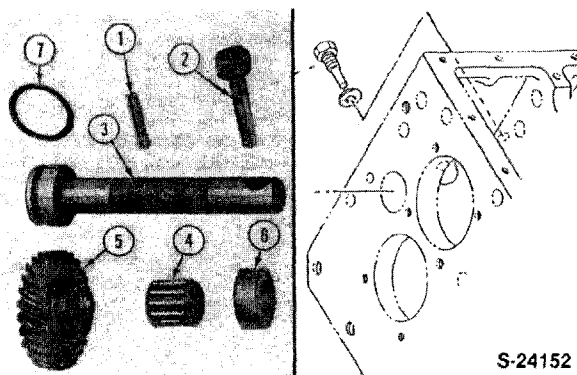

Figure 145
2. Remove the idler shaft retaining bolt (2), Figure 145.
4. Remove the thrust washer (6), counter gear (5) and needle bearing (4) from the case, Figure 145.
5. Remove the O-ring (7) from the idler shaft.